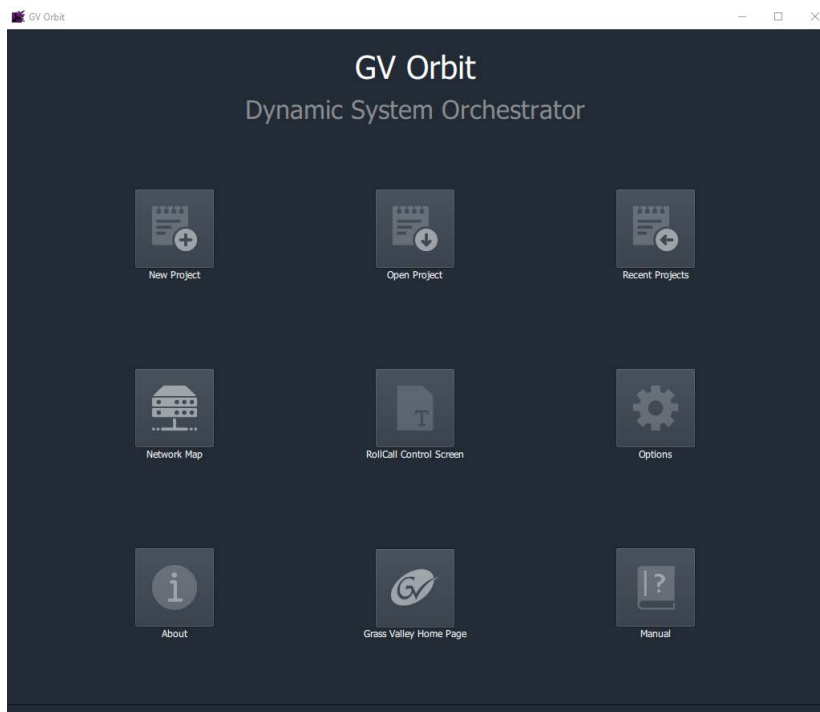

Fig. 2-6: GV Orbit Client Initial Screen
- 8 Click **Finish** and the GV Orbit Client application launches and shows its initial screen. See Figure 2-6.